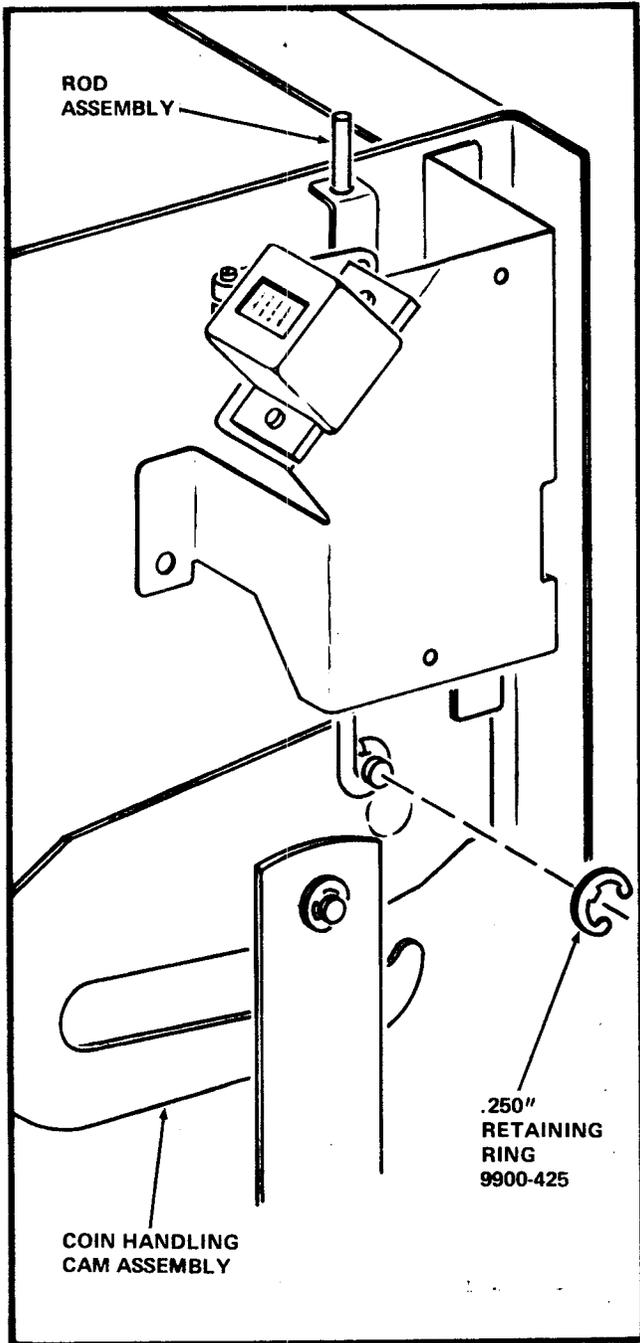

FIGURE 7
15. Place the loop in the end of the Rod Assembly on the upper Stud on the replacement Coin Handling Cam Assembly installed in step 9. See Figure 7.